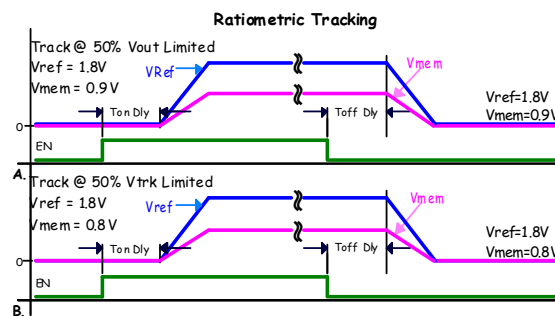

FIGURE 16. RATIOMETRIC TRACKING
1. Track at 50% VOUT limited. Member rail tracks the reference rail and stops when the member reaches 50% of the target voltage, Figure 16\(A\).
2. Track at 50% VTRK limited. Member rail tracks the reference at the instantaneous voltage value applied to the VTRK pin until the member rail reaches 50% of the reference rail voltage, or if the member is configured to less than 50% of the reference the member will achieve its configured target, Figure 16\(B\).